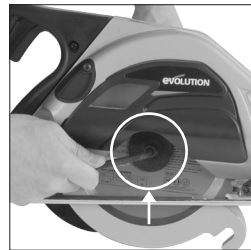

Fig. 3
- Using the supplied hex key loosen and remove the arbor socket headed screw and outer blade drive flange. **(Fig. 3)**